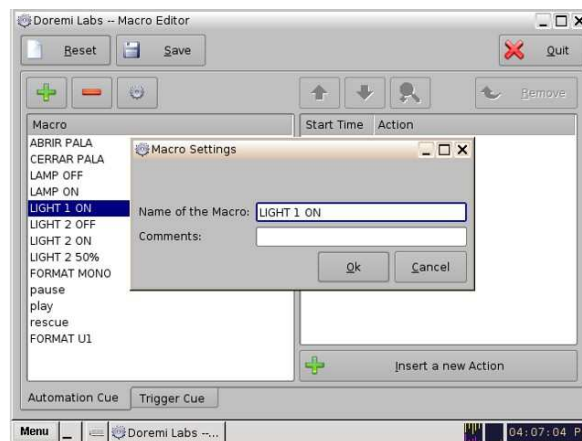

Figure 8.3.3B
5. Then create a new "Macro" with the "+" button and name it, like in the **figure 8.3.3B**.